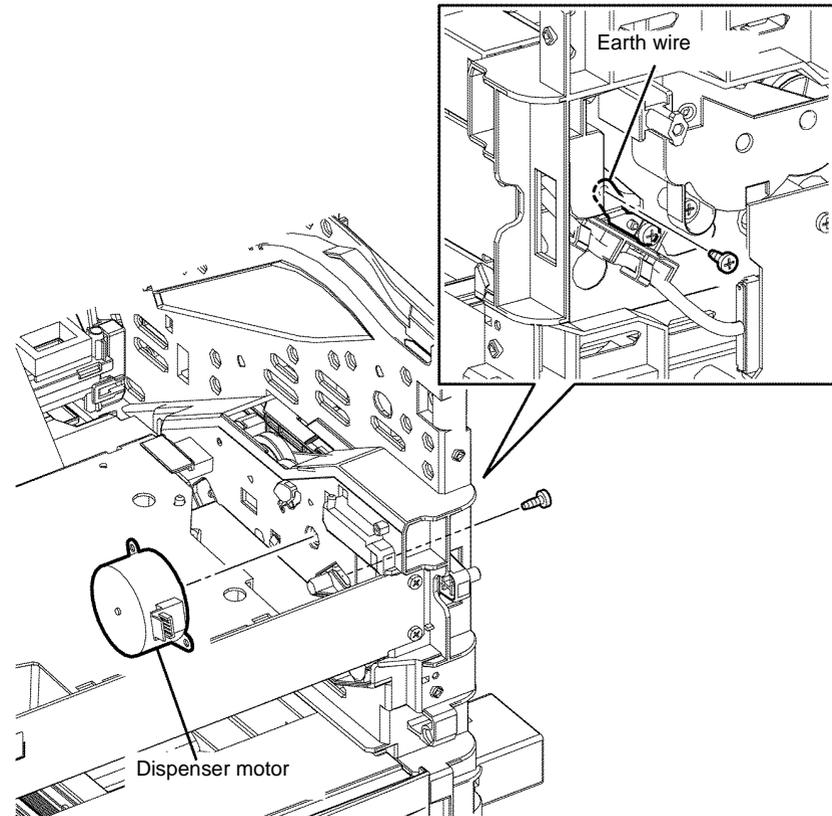

Figure 5 Dispenser motor installation
2. When installing the dispenser motor, secure the dispenser motor and earth wire together with the screw, Figure 5.